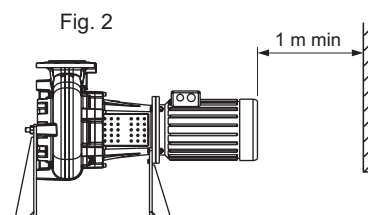

Fig. 2
- 2 - Electric pump positioned with the rotor axis horizontal, on a bearing stand and with the delivery port pointing upwards (fig. 2).